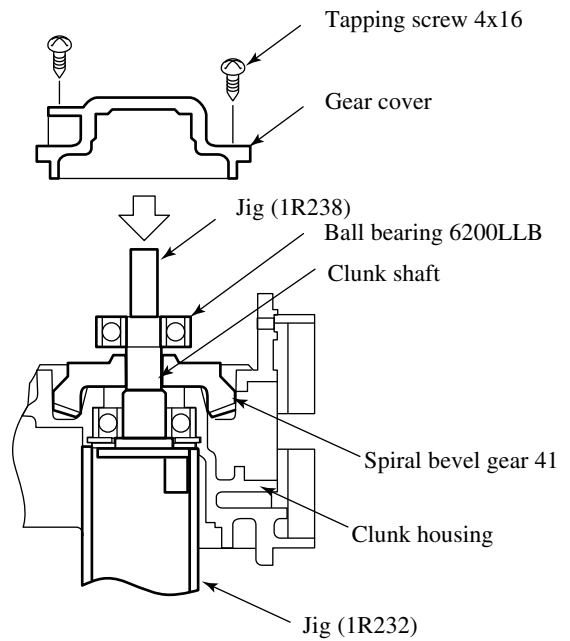

Fig. 20
- 1) Remove Tapping screw 4x16 and Gear cover. (See Fig.20)
- 2) Use Jigs, 1R232 and 1R238, shown in Fig.20, press out Clunk shaft by Arbor press.